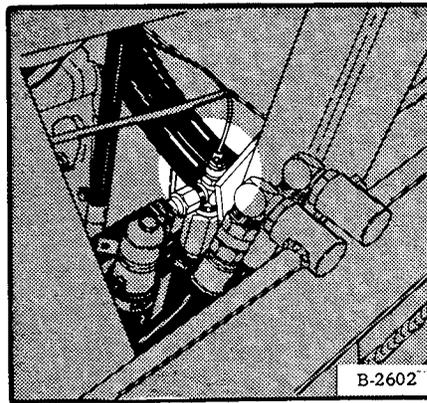
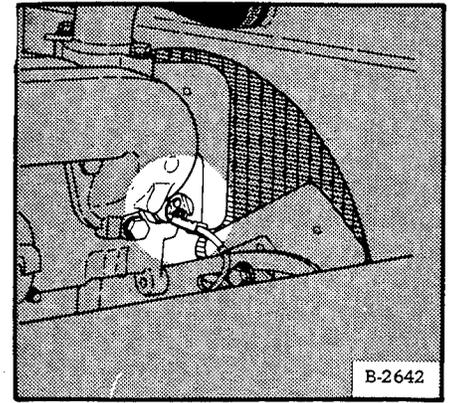

Fig. 1-39 Hydrostatic Temp. Switch
Fig. 1-40 Engine Temp. Switch (974)
- (1) Turn ignition switch to "on".
- (2) Disconnect wires for indicator switches. HYDRO (hydraulic oil temperature) switch (Fig. 1-39), and ENG (engine water temperature) switch is located on top of engine head (Fig. 1-40 & 1-41).
- (3) Ground the wires against the frame. If indicator lights are on, all circuits are good.
- (4) LUBE (engine oil pressure) indicator should be on when the ignition switch is turned on.